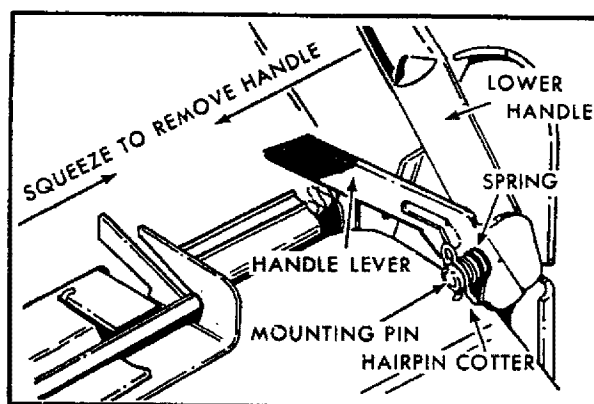

FIG. 3
- d. Remove the hairpin cotters and springs from mounting pins (See Fig. 3).
- e. Squeeze the bottom ends of the lower handle toward each other until handle and handle levers slip off mounting pins (See Fig. 3).
- h. Put springs and hairpin cotters back on mounting pins (See Fig. 3).
5. To fold handle for storage, squeeze the handle levers until lower handle clears handle brackets, then move handle forward (See Fig. 3).